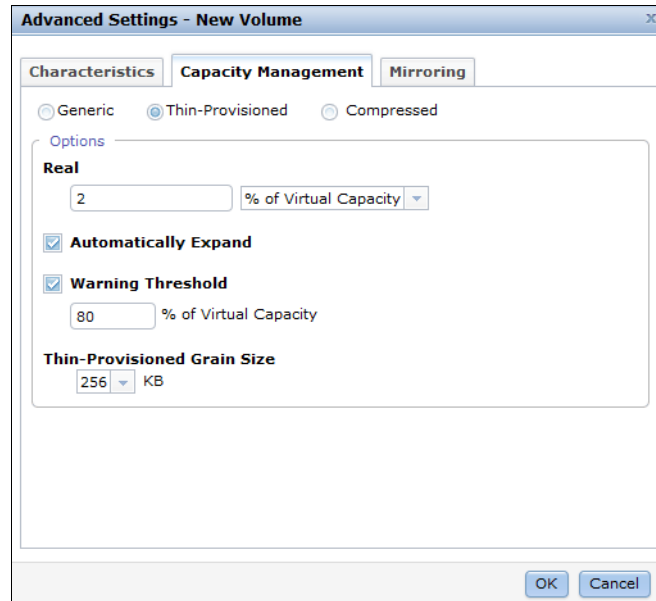
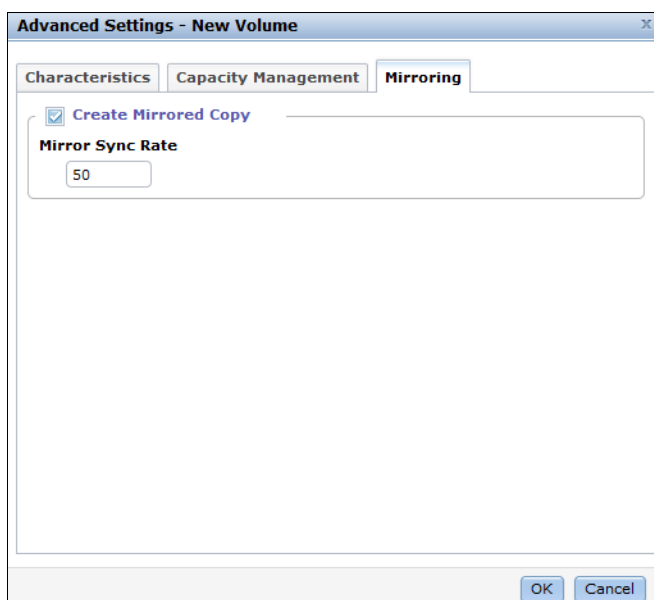

Figure 6-8 Advanced Settings
Figure 6-13 Advanced mirroring features
3. Under the Volume Name field is a summary showing that you are about to make a thin-provisioned volume, how much virtual space is will be available, the space that will be allocated (real size), and the free capacity in the pool. By default, the real capacity is 2% of the virtual capacity; you can change this setting by clicking **Advanced** and selecting **Capacity Management** as shown in Figure 6-8 on page 247.
4. On the Thin Provisioning tab (Figure 6-8), there are several advanced options available:
4. The summary shows you capacity information about the pool. If you want to select advanced settings, click **Advanced** and click the **Mirroring** tab (Figure 6-13).
- The summary shows you the capacity information and the allocated space. You can click **Advanced** and customize the thin-provision settings (Figure 6-8 on page 247) or the mirror synchronization rate (Figure 6-13 on page 250). If you have opened the advanced settings, click **OK** to return to Figure 6-17.